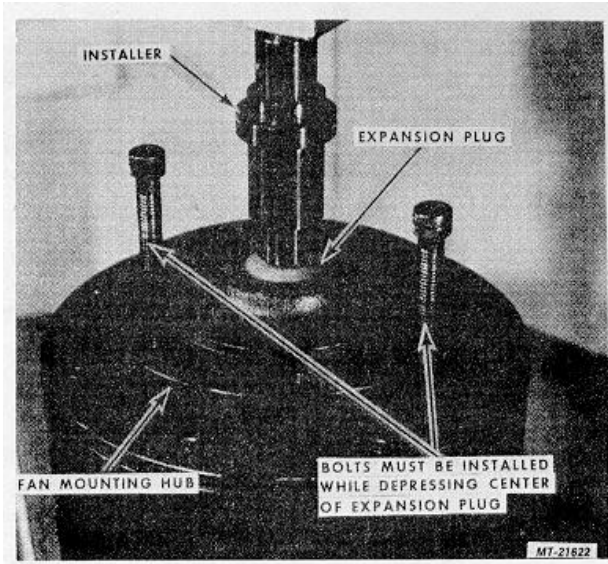

Fig. 92
55. Apply Loctite #242 around the outer edge of Expansion Plug and insert the Expansion Plug into the recessed area of the Fan Mounting Hub in the convex position. (Center dome up). Using Installer SE-2782-1, depress the center of Expansion Plug slightly to seat it, Fig. 92.